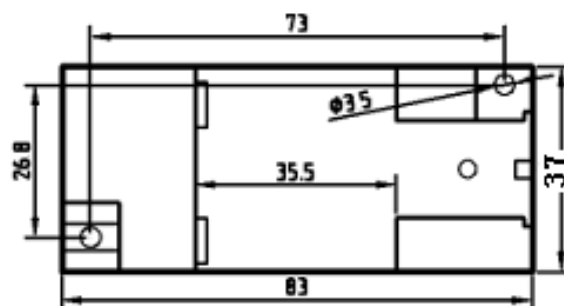

Figure 13 Mounting dimensions
- ①The transducer fixed on the side of the card slot and hook on the mounting rail;
- ②Pull the spring pin down;
- ③Clip the transducer mount on the mounting rail;
- ④Release the spring pin and clip the transmitter on the mounting rail.
- ①4mm diameter hole in the fixed plate according to the position of the screw hole shown in Fig. 13;
- ② Use the screw Φ3.5 to insert into hole and secure it.